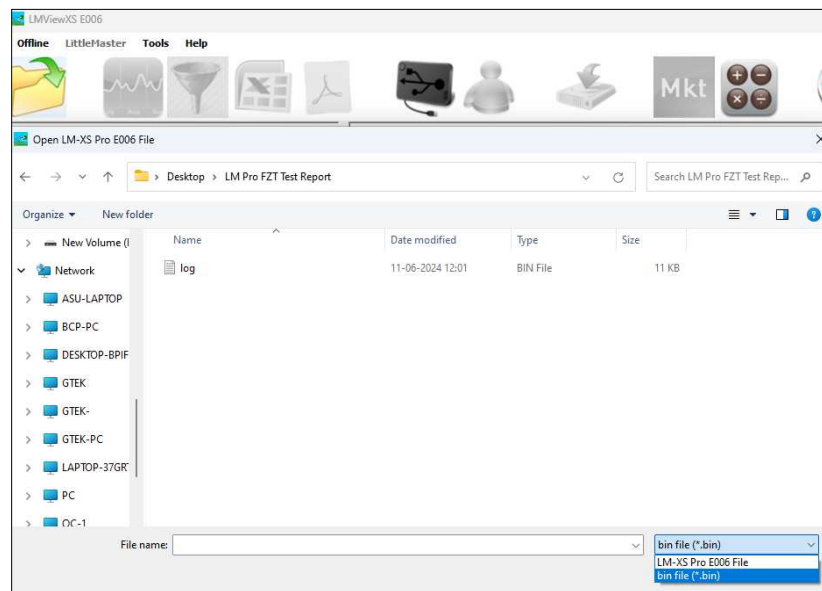

Figure 25 Open the downloaded log data
- Click on the “**Open Downloaded Batch**”  Button to open the copied Log data file of the data logger from stored location as shown in figure 25.